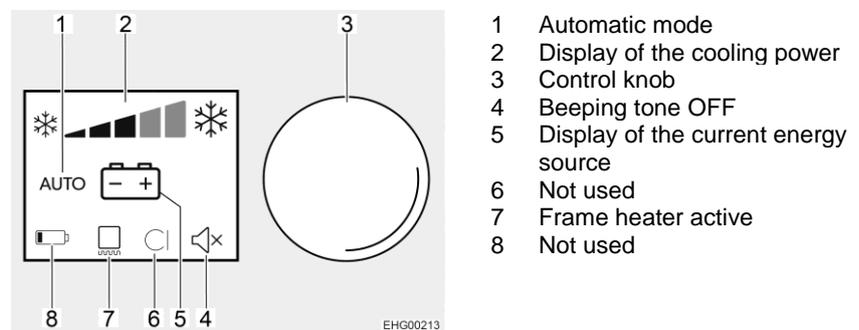

Fig. 188 Operation of refrigerator
When turned on the first time the refrigerator automatically selects the middle thermostat position. This setting can be adjusted manually via the control knob (Fig. 188,3). The bars (Fig. 188,2) indicate the selected thermostat position. It takes a few hours till the refrigerator reaches its normal operating temperature. When changing over the operating mode the thermostat setting will be maintained. The refrigerating temperature is retained regardless of the type of energy being used.
High external temperatures and high humidity can cause drops of water to form on the metal frame of the freezer compartment. This is why the refrigerator is equipped with a frame heater for the freezer compartment. If the temperature and humidity are high, switch on the frame heater. This prevents corrosion. If the frame heater is switched on, the frame heater symbol (Fig. 188,7) is lit.
- Turn control knob (Fig. 188,3) until the bottom line (adjustment menu) is active.
- Press and hold the control knob (Fig. 188,3) for about 2 seconds. The refrigerator switches on with the settings selected most recently.
- Press and hold the control knob (Fig. 188,3) for about 4 seconds. The refrigerator switches off and no displays are lit.